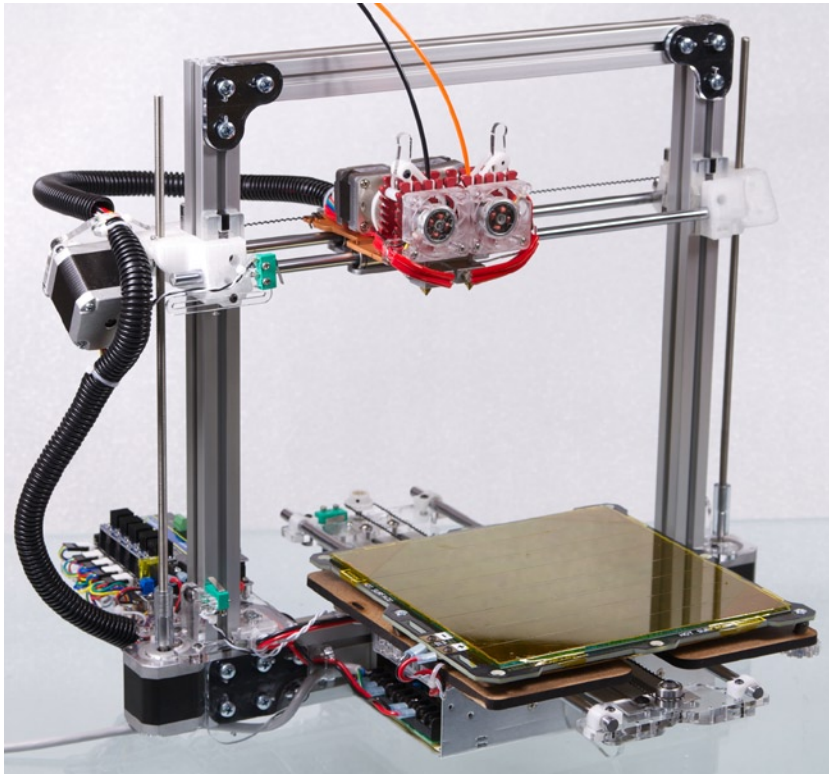
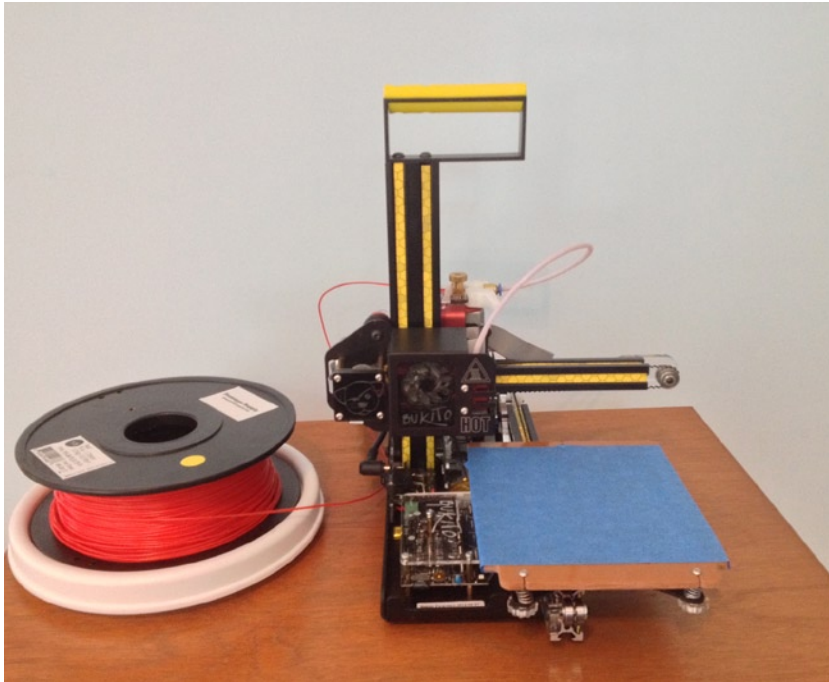

Figure 2-1. A typical Cartesian 3D printer (a Deezmaker Bukobot Duo). Photo courtesy of Deezmaker
Figure 2-2. A cantilevered, gantry-style Cartesian 3D printer (Deezmaker Bukito)
Chapter 9 discusses the process of integrating traditional manufacturing technologies like sand casting with 3D printing to create prototypes in metal more efficiently than is possible with traditional sculptural techniques. Small-run production also can benefit from using a few 3D-printed parts; many startup 3D printer companies use at least some 3D-printed parts for a while until their production runs reach a point where other processes make more sense. The large white parts in Figure 2-1, for example, are 3D printed.
Figure 2-1 shows a Deezmaker Bukobot Duo, a typical Cartesian, RepRap-heritage 3D printer. 3D printers define x, y, z axes. Typically, the z axis is the vertical one. In the case of the machine in Figure 2-1, the x axis direction is from left to right, and the y axis is toward and away from you.
Figure 2-1's design has a build platform (the square platform, where the 3D-printed object will build up) that moves in the y axis (forward and backward in the view in the figure). The build platform rests on the *Y carriage* which moves the platform along the y axis.
The mechanism partway up between the build platform and the top of the frame is the *X carriage*. The X carriage carries the *extruder*. The extruder in turn has several major components. The *extruder drive mechanism* drives the filament into the *hot end* where it is melted and extruded through the *nozzle*. In Figure 2-1's design, the extruder moves left to right to create the motion in the x direction. The whole X carriage is moved up and down by the motors and screw gears visible on either side to give motion in the z (vertical) direction. Or, to put it another way, the Z carriage is the entire x axis.
This design (called a *gantry*, an overhead axis supported on both ends) has the virtue of conceptual simplicity: if you want to move on the y axis, just one motor has to engage. (The y motor is at the back of the machine here and not visible under the build platform; the x motor is the motor at an angle on the left side of Figure 2-1). Different manufacturers make various choices about which axes to move and which parts to keep stationary. Many use the arrangement just described, but some others move either the extruder or the platform in both x and y directions. A Cartesian printer does not have to have a rectangular frame. An open, cantilevered, gantry-style frame (as shown in Figure 2-2) accomplishes the same thing. Because the frame needs to be very stiff to keep the precision of the print high, a gantry is best for smaller build area printers where the extruder is not suspended too far out on a beam.
Figure 2-2 shows a Deezmaker Bukito 3D printer, which has a 5×6-inch platform and a maximum height of 5 inches. (By contrast, the printer in Figure 2-1 was designed to print objects up to those that fit into an 8-inch cube.) This machine moves the extruder from right to left (x axis), moves the platform forward and back (y), and carries the whole x axis up and down to get the z (vertical) dimension.
The printer in Figure 2-1 has a heated platform covered with Kapton high-temperature tape. The one in Figure 2-2 is unheated and covered with blue painter's tape to allow printing of a plastic called PLA (polylactic acid). Chapter 7 details what type of build platform surface is necessary for different filament types.
The extruder is the part of the printer that melts and moves the filament. The extruder has several parts. One is an extruder drive mechanism, which is a motor and a mechanism that pushes the filament into the hot end. The hot end in turn is comprised of a heater, a nozzle, and a sensor (a thermistor) to sense how hot the bed is. You can see two extruders on the printer in Figure 2-1, which is a dual-extruder machine capable of printing objects out of two materials.
There are many different extruder designs, which fall into two major categories. A *direct-drive extruder* (like the one on the machine in Figure 2-1) has a motor and drive gear pushing the filament right next to the hot end. A Bowden extruder (like the one on the machine in Figure 2-2) has a drive gear that is separated from the hot end with a guide tube.
A stepper motor (Figure 2-4) is a precise, brushless, direct current (DC) motor that moves the shaft in predefined angular steps. Motors for 3D printers typically have 200 steps per revolution. The stepper motor is then coupled to a drive screw (like the z-axis motors for the printer in Figure 2-1) or to a belt or cable.
Filament needs to be carried somehow, too. Open source printers typically take filament from a spool, which needs to be mounted to turn freely somehow (the extruder drive gear drags the filament; the spool is not motorized). Figure 2-2 shows a typical rotating spool lazy susan.